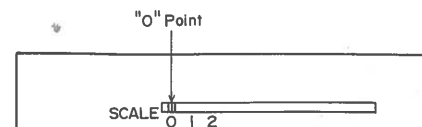
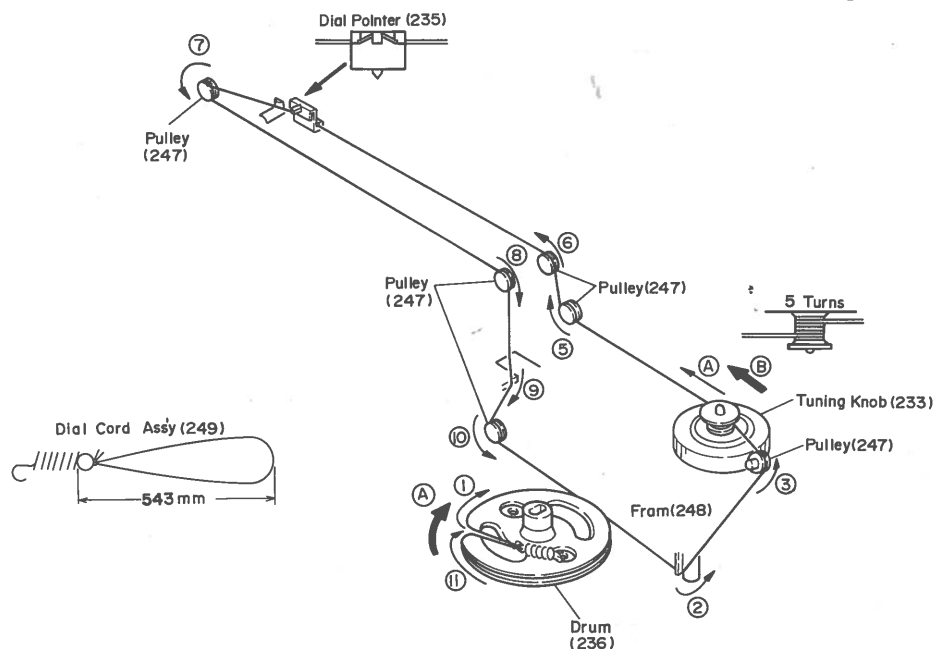

Figure 7-2
Figure 7-3
1. Turn the drum fully in the direction ① shown in Fig. 7-3 and stretch its cord over the parts in the numerical order.
2. Then turn the tuning control shaft fully in the direction ② shown in Fig. 7-3 and fix its pointer as shown in Fig. 7-2.